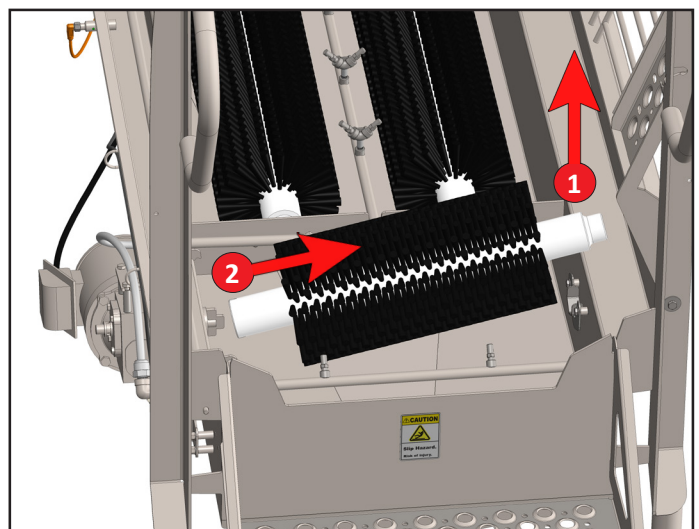

Fig. 10.3: Brush removal process, shown on BLX-1000S
2. Lift each brush out of the tub by grabbing the open end and lifting up [Figure 10.3 - Arrow 1].
3. With the open end lifted, the brush can be detached from its anchor [Figure 10.3 - Arrow 2].